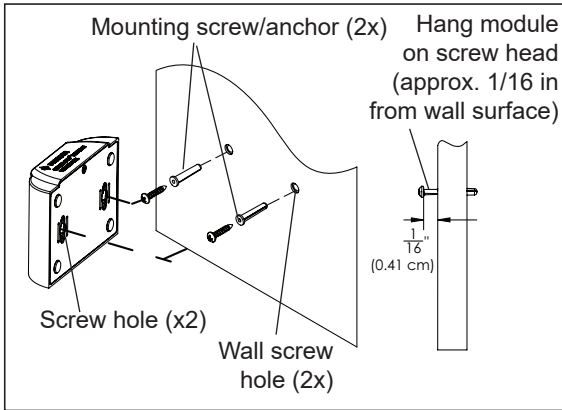
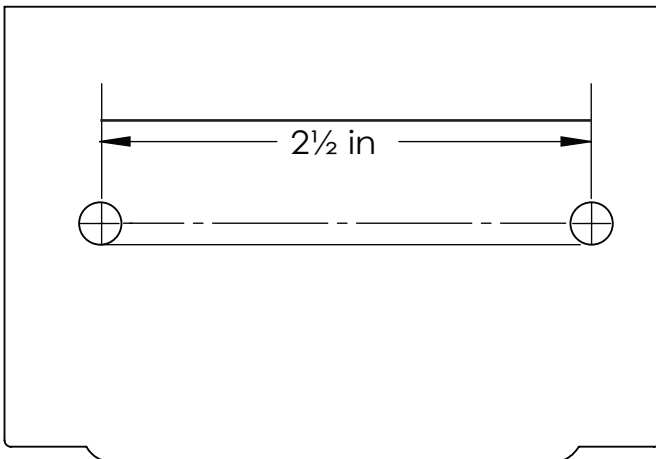

Figure 2: Wall Mount the Indoor Wireless Transceiver
Figure 3: Wall Mount Template for HPW Link Indoor Transceiver
**Wall Mount the HPW Indoor Transceiver** (Figure 2 and Figure 3 on page 7). Mount the HPW Indoor Transceiver on an indoor wall as follows:
2. Drill two holes (0.223 in) 2-1/2 inches apart as shown on the template (see Figure 3 on next page).
4. Insert the screws into the wall plug. Don't insert the screws all the way into the wall, leave about 1/16 in for the wireless transceiver to hang on the head of the screws (see Figure 2 on next page).